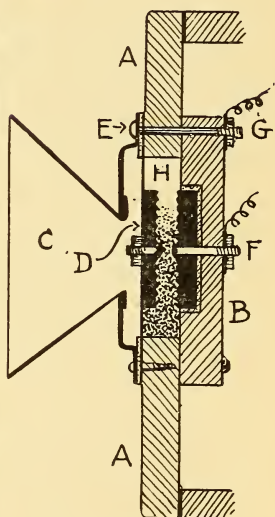

FIG. 12
A sectional view of this transmitter is shown in Fig. 12. A hole one inch and a half in diameter is cut in the cover (A). A round or square block (B) two inches and a quarter across and half an inch thick is made fast to the rear of the cover, and in this a hole is bored seven-eighths of an inch in diameter and one-quarter of an inch deep.